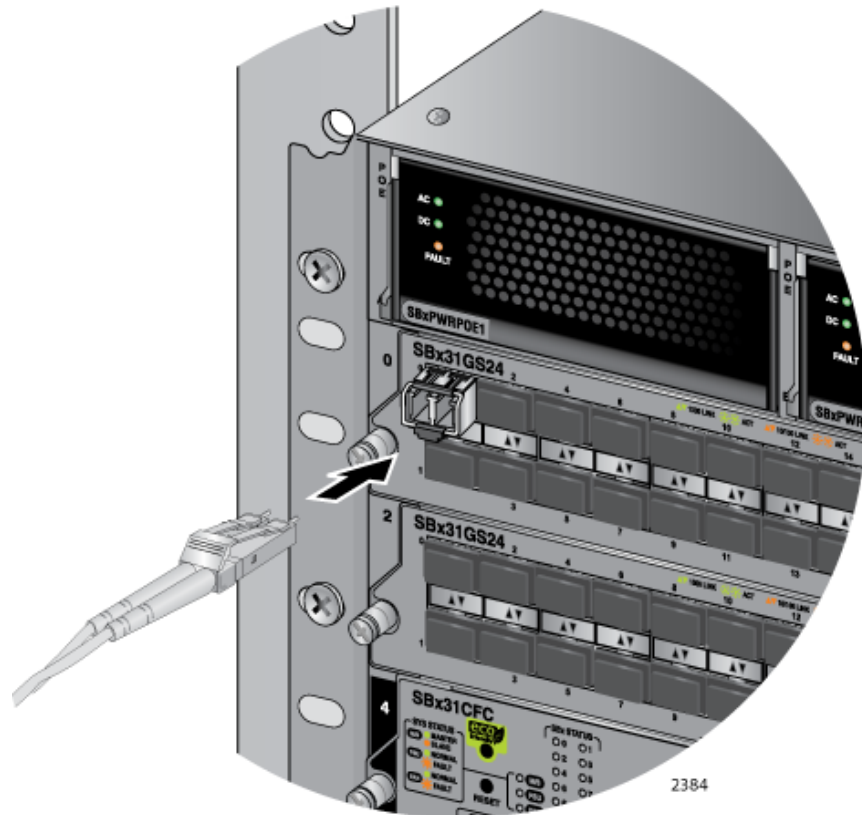

Figure 89. Attaching a Fiber Optic Cable to an SFP Transceiver in the AT-SBx31GS24 Line Card
6. Connect the fiber optic cable to the port on the transceiver, as shown in Figure 89. The connector should snap into the port.